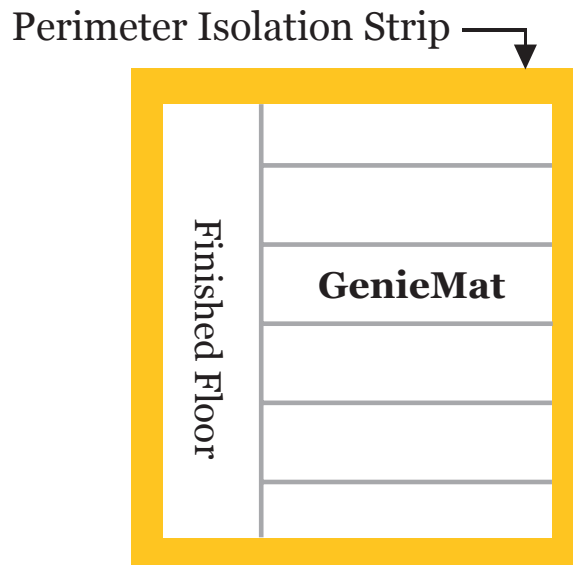

Figure 2
- ii. Unroll and/or place **GenieMat** underlayment perpendicular to subsequent installation direction of finished floor (refer to **Figure 2**).